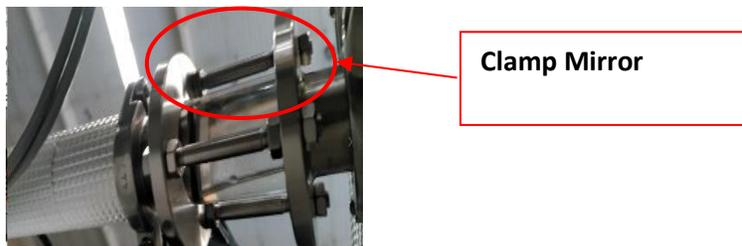

Fig 16
- Fill the silicon oil in the expansion tank until full as shown in Fig 16.